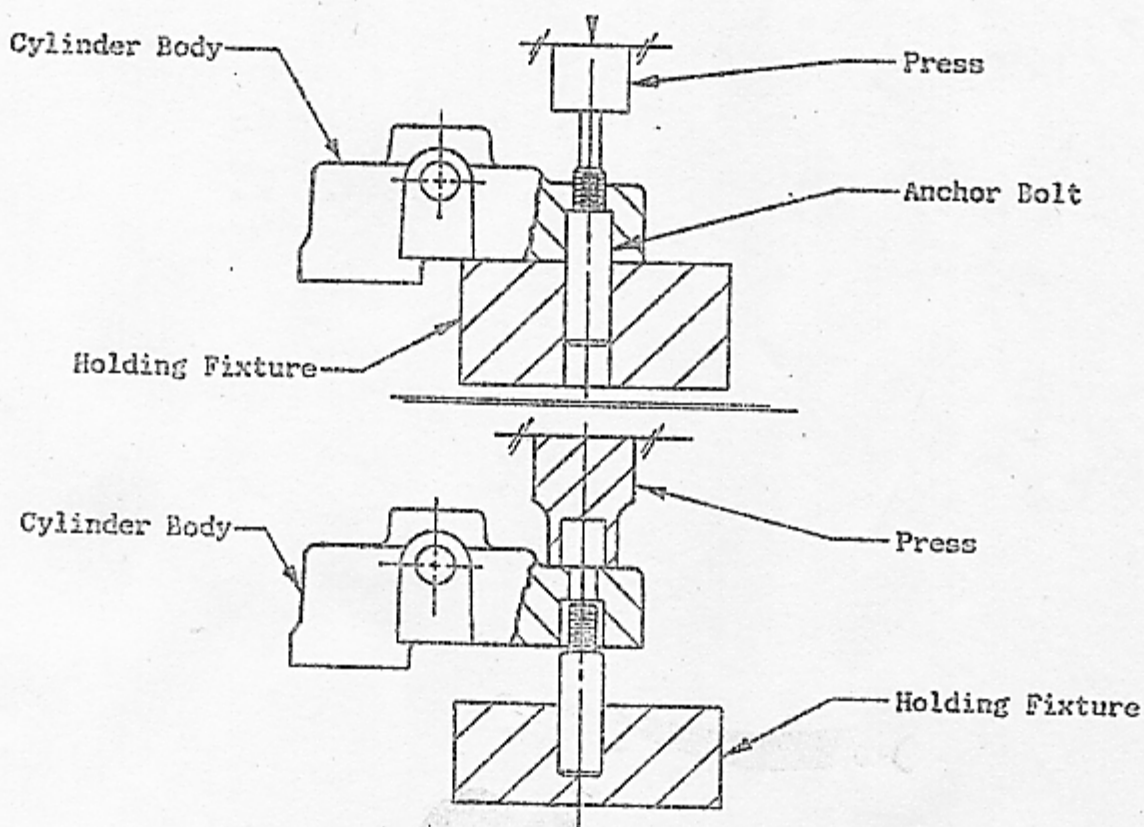

Figure 3 Anchor Bolt Removal
12.2.4.1 If removed, press anchor bolts Item #33 (ref. Figure 3) into brake and install washers and nuts. Torque nuts to 60-70 in-lbs.